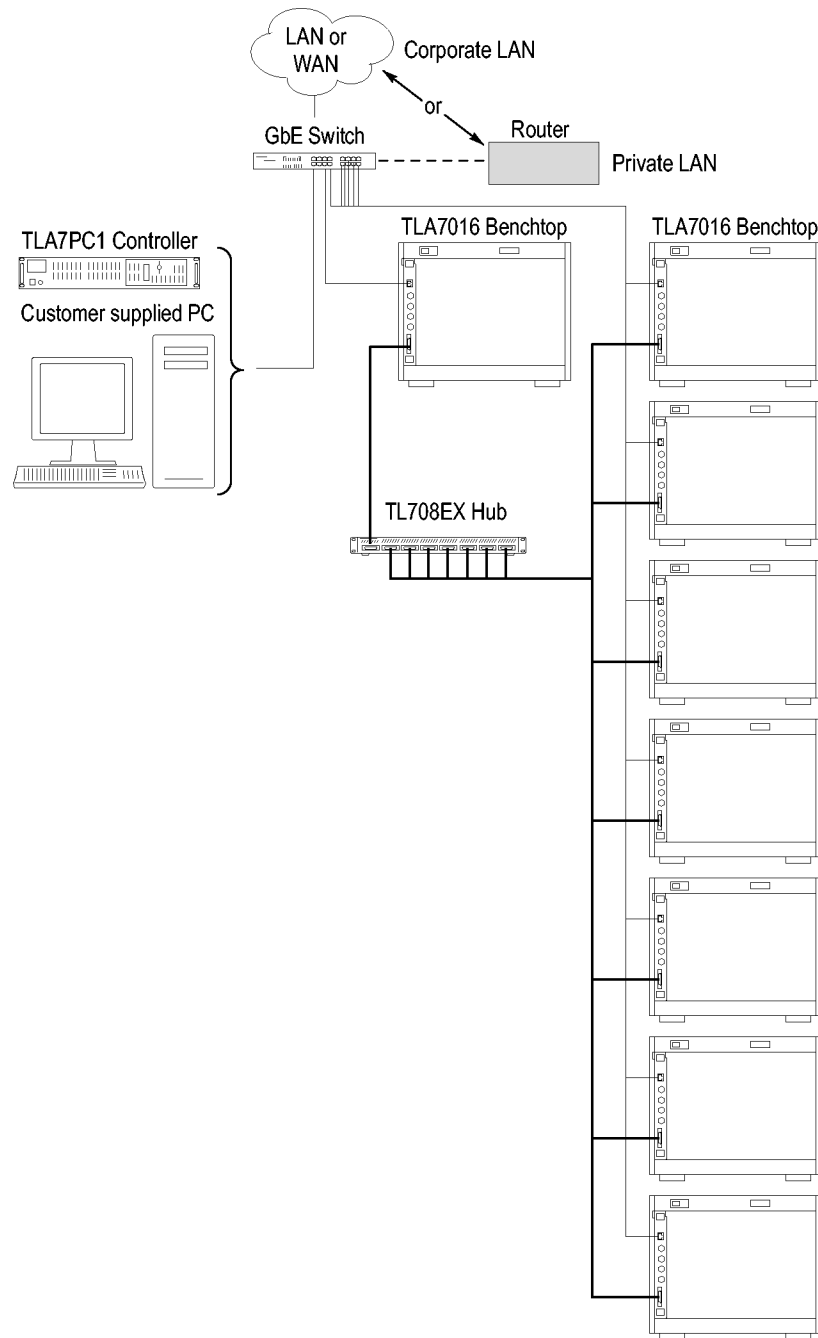

**Figure 23: Two instrument configuration**
5. Click the **TLA Configuration** icon. The TLA Configuration dialog box opens. (See Figure 23.) Use this dialog box to assign one instrument as the master mainframe and the other as the expansion mainframe.